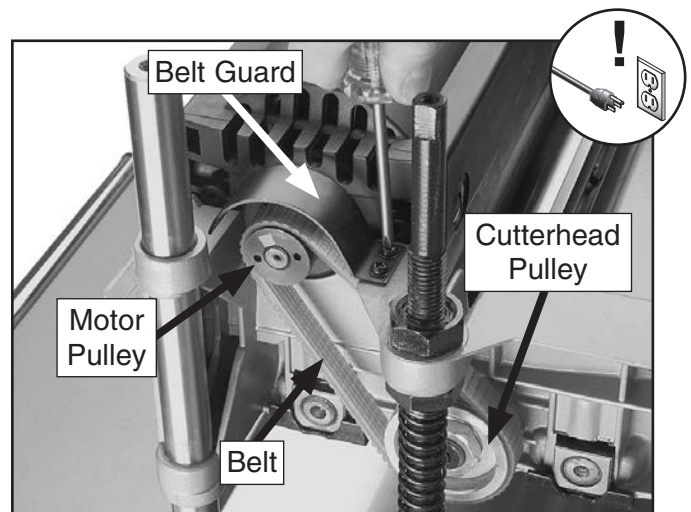

Figure 32. Drive belt and pulleys.
- Remove the two Phillips head screws from the front and back of the right-hand side panel, then lift the panel up and away from the machine to expose the drive belt and pulleys, as shown in **Figure 32**.
4. Remove the belt guard shown in **Figure 32** by removing the two Phillips head screws that secure it.